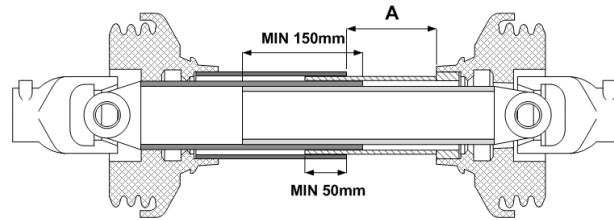
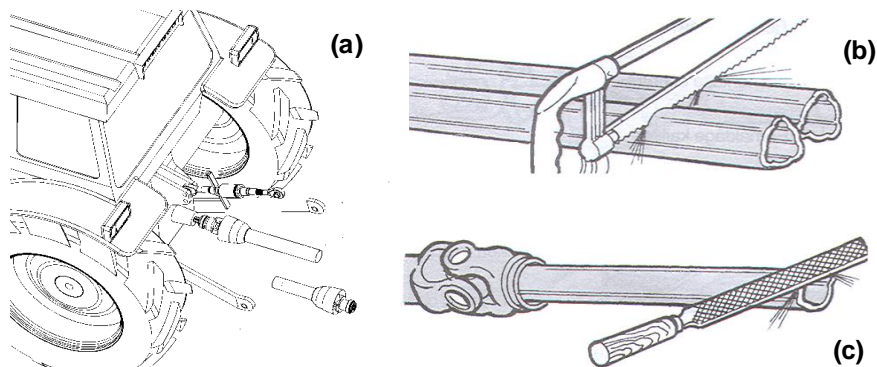

Figure 4.2
Figure 4.3
IMPORTANT: The recommended minimum engagement of the PTO is 150mm in the working position. This measurement must be taken into account when shortening the PTO shaft. (See Figure 4.3)
4.6.1.2 Pre-assemble the PTO shaft and check that the drive tube overlap is not less than 150mm, see Figure 4.2 and Figure 4.3 a.
4.6.1.3 Check that the minimum overlap of the shaft guards is not less than 50mm, see Figure 4.2.
4.6.1.4 If the overall PTO length is likely to reduce during operation then ensure that at its minimum there is at least 40mm movement left between the guards, see dimension 'A' in Figure 4.2.
4.6.1.5 If the PTO needs to be shortened, cut both tubes as both halves must be shortened equally, see Figure 4.3 b.